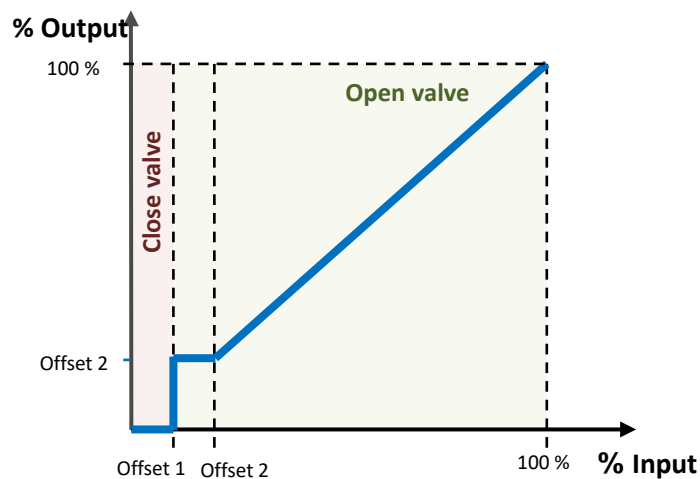

Figure 8 Output percentage value depending on the input setpoint and the offsets.
- The **minimum value of the control variable** that should activate the fan, i.e., the minimum percentage value that will be required to make the actuator actually operate the fan; values under that minimum will be ignored by the actuator. This is called “Offset 1” in Figure 8.
- The **minimum fan speed**, i.e., the minimum voltage (in percentage) that permits appreciating motion in the fan. This parameter is useful when the fan is not able to effectively start motion with voltage values lower than a certain percentage. This is called “Offset 2” in Figure 8.